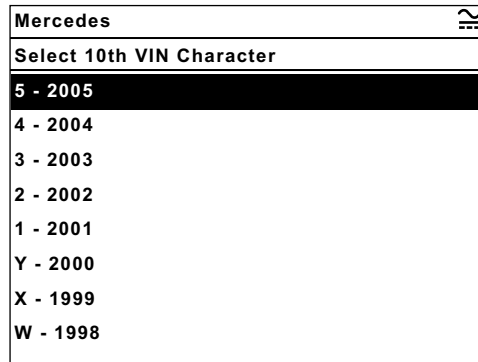

Figure 5-3 Sample Vehicle ID screen
The initial vehicle identification (ID) process begins (Figure 5-3).